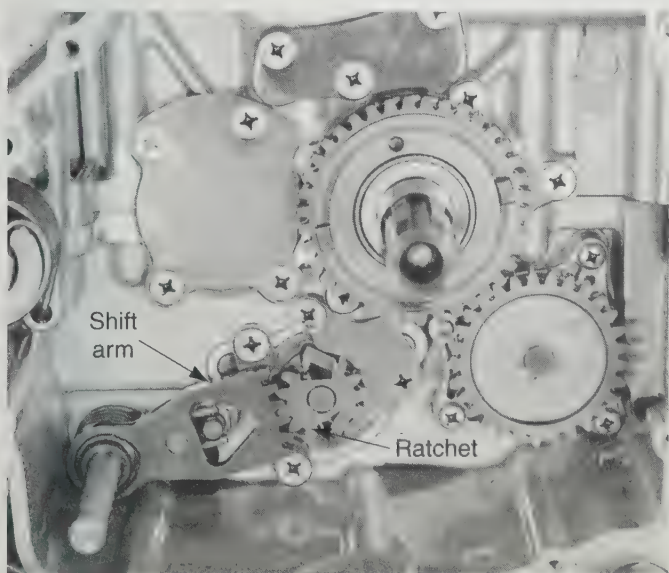

Figure 21-33. Gear selector mechanism must be properly timed. The ratchet gear teeth are centered on the selector shaft gear teeth.
12. Check for proper timing and adjustment of the shift mechanism, **Figure 21-33**.